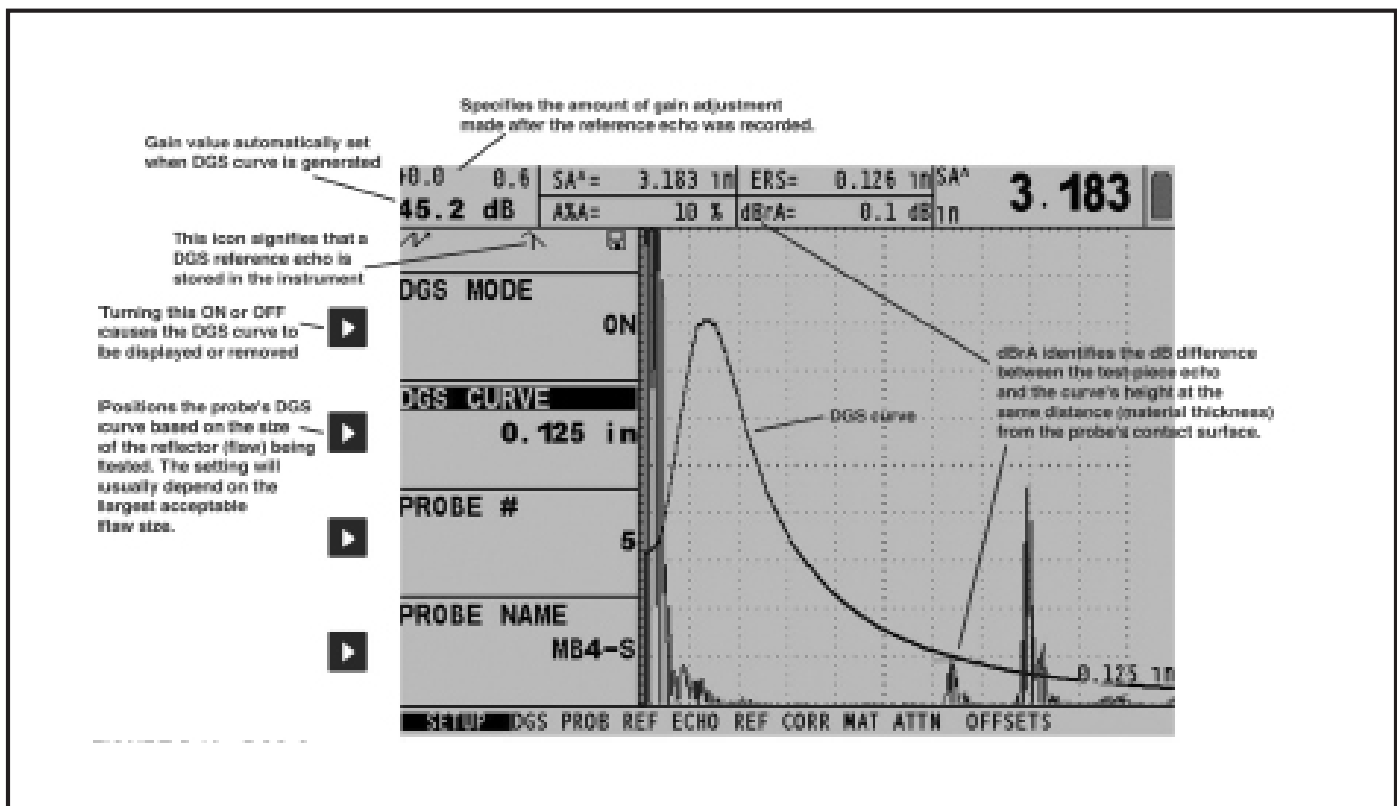

Figure 57: DGS Curve
Once a reference echo has been recorded, the DGS curve is displayed simply by selecting the SETUP submenu in the DGS menu, then setting the DGS MODE function to ON (Figure 57 below). Note that switching this value to OFF does not delete the curve — it simply removes the curve from the display and disables the DGS mode. Once the DGS Curve is displayed, it can be adjusted using one of these three functions:
**dBrA**—dB equivalent height difference between the signal crossing A-Gate and the corresponding DGS curve height. This value is shown in Figure 57 on the previous page.